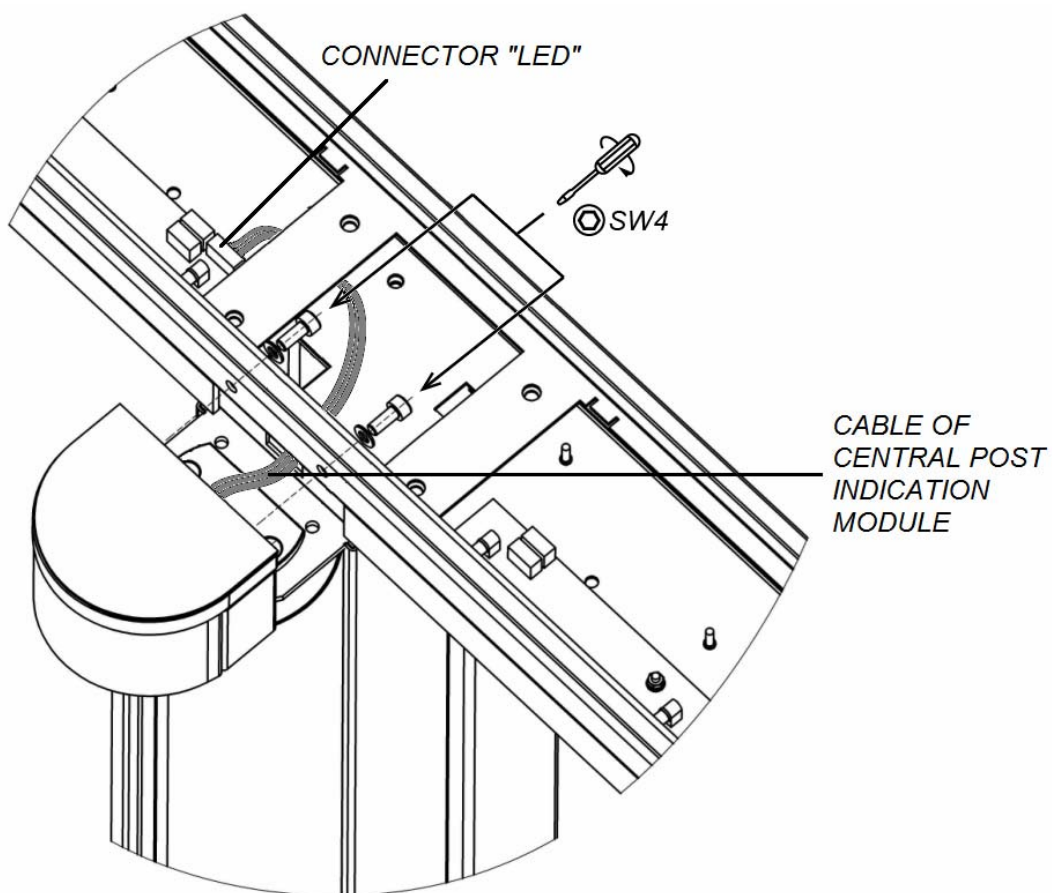

Figure 24. Central post indication module installation
Follow the instructions to install the central post indication module (3) (Fig. 24):
3. Install the indication module on the surface, located above the rotating support of swing panel and with an SW4 hexagon key fix it on the post upper duct (12), using two M5×12 screws with washers from the delivery set.